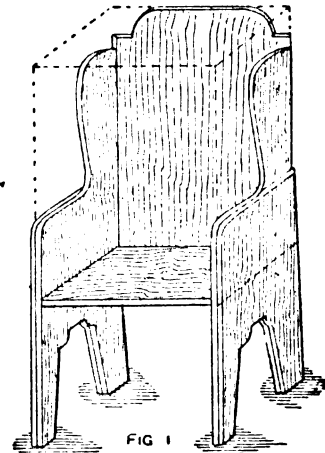

FIG 1
**Garden Chairs made from Tea-chests.**—Fig. 1 shows a garden chair made from an East India tea box, 2 ft. long and 18 in. wide and deep, the only tools being saw and knife. Better legs might doubtless be made with 2-in. or 2½-in. scantling, if such should come readily to hand; but those shown are waste board from the box itself, and consist of two thicknesses nailed together between the seat and the ground. The box (did included) will yield enough spare wood, not only for the legs, but for strengthening wherever this may be required. This chair is one which will pretty well screen
**Fitting Revolving Oilstone.**—The illustrations show a wooden stand in which to mount a revolving oilstone which is  $2\frac{1}{2}$  in. in diameter and  $1\frac{1}{4}$  in. thick. It will first be necessary to make a spindle as Fig. 1. This may be forged from a piece of  $\frac{1}{4}$ -in. round iron worked down to  $\frac{1}{4}$  in. at A, where it passes through the stone,  $\frac{1}{4}$  in. in diameter at B for the bearings, and with a solid collar worked at C. A wooden or bone handle is fitted at one end D, and a nut is used at E to hold the stone on the spindle. The stand may be of  $\frac{1}{4}$ -in. hard-